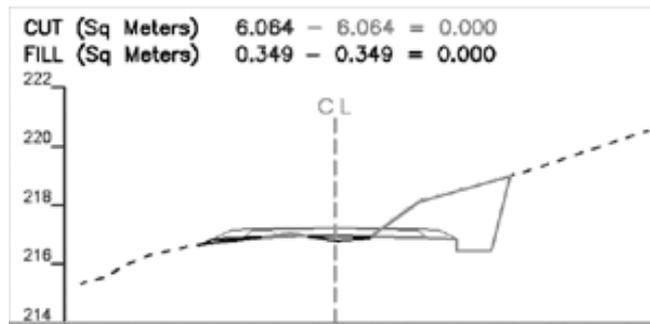

Figure 3. Verification of area labels mentioned
- How we will verify that area values labeled on cross sections are correct and cut/fill area computed against NSL and Design lines is the same as shown on cross section. This item is also important to check. On each cross section multiple cut/fill area are summed up and labeled on corner of cross section. We have two options either we use random check on selected sections which may lead to word anomalies because in this way whole document will not be verified but partially verified. Another way is to recalculate all the area values manually for each cross section, which is extremely laborious time consuming and some time practically impossible. So CivilStrips have an area verification tools. As shown in figure 3. With the help of which we can verify cut and fill area values of 2400 cross section with single click and with in minimum time.